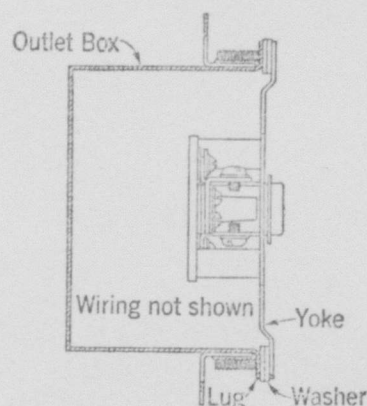

Fig. 2.
5.09 Attach jack on lugs of outlet box, using the screws which are furnished with jack. When installed, the jack should be in alignment with the supporting surface, and should be brought forward a sufficient distance so that cover plate will not interfere with insertion of plug. If necessary, in order to secure a flush fit, place washers under yoke, as shown in Fig. 2.